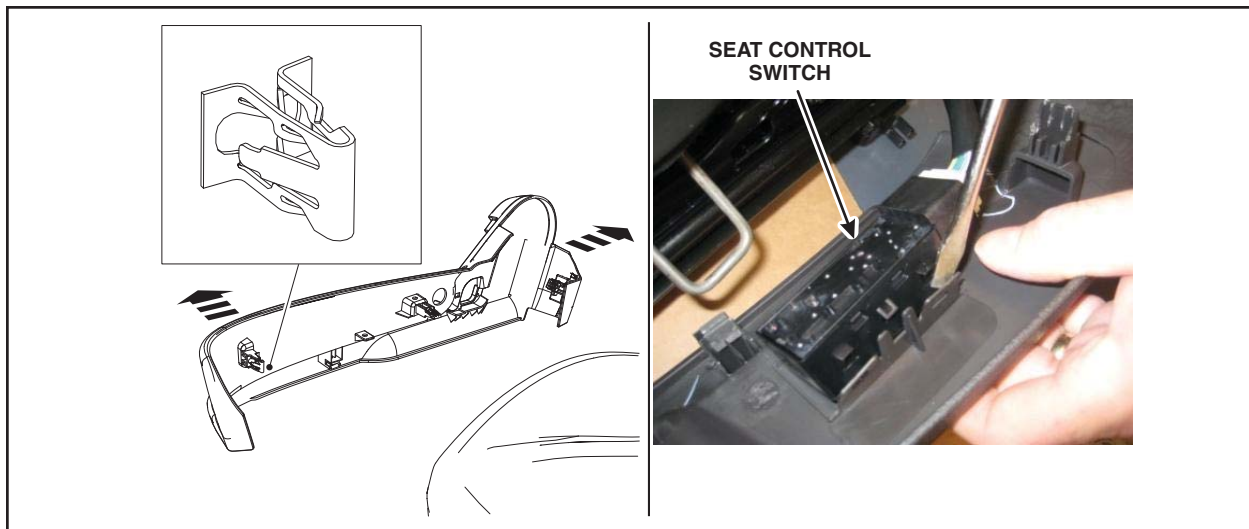

FIGURE 5
11. Remove and discard the side shield from the seat cushion frame. See Figure 5.